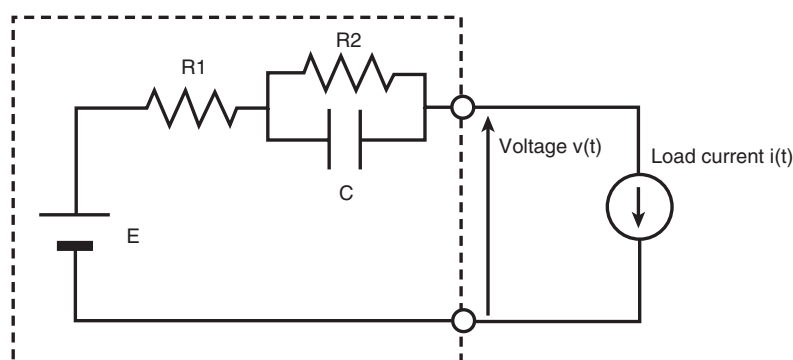
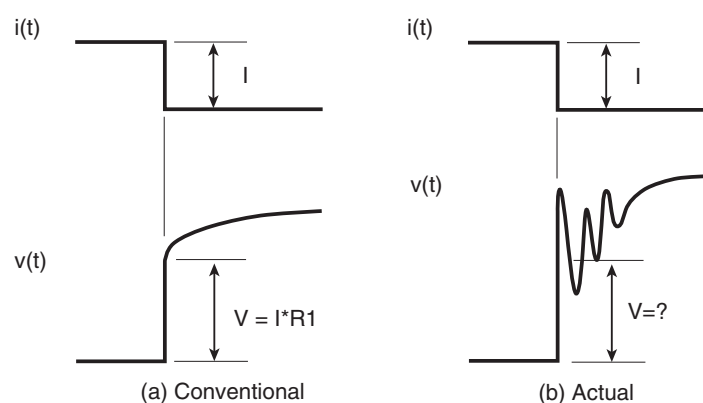

Fig. A-18 The simplest equivalent circuit of a fuel cell
Fig. A-19 Conventional and actual interrupt current waveform
Fuel cells operate as batteries by the chemical reaction that takes place at the boundary face of the electrode and electrolyte. This reaction can be represented as an equivalent circuit. There are many equivalent circuits that have been devised, but the circuit shown in Fig. A-18 is often used. Here,  $R_1$  is the ohmic resistance of the electrochemical/electrical circuit,  $R_2$  is the resistance to charge transfer at the electrolyte/electrode interface, and  $C$  is called the electric double layer capacitance. In the explanation below, we assume that the characteristics of the fuel cell can be represented by this equivalent circuit.
In the current interrupt method, the load current  $i(t)$  of Fig. A-18 is varied in a step pattern shown in Fig. A-19, and the ratio of the amount of change at the section where the waveform of the voltage across the output terminals of the fuel cell  $v(t)$  jumps abruptly (the V section in Fig. A-19) versus the amount of change of current at the corresponding point is determined. This value is assumed to be the ohmic resistance of the electrochemical/electrical circuit  $R_1$ .
However, in the actual measurement, if load current  $i(t)$  is varied as shown in Fig. A-19 (a), the voltage response across the output terminals is as shown in Fig. A-19 (b) in most cases due to various effects such as the wire inductance.
Because the amount of change where the voltage response jumps (the V section in Fig. A-19 (b)) is unclear in this condition, the determination of ohmic resistance of the electrochemical/electrical circuit R1 from the ratio against the amount of change of current is difficult.
- In the current interrupt method, the section where the voltage jumps can be read more clearly as the speed of the current interrupt is made faster (the time until the current is cut off is shortened). However, in reality, the voltage waveform is distorted as shown in Fig. A-19 (b) due to the wire inductance.
- In this case, the waveform distortion is decreased as shown in Fig. A-19 (a). But because the change is gradual, the section where the voltage jumps becomes unclear. If the ohmic resistance of the electrochemical/electrical circuit is determined in this condition, the value ends up being different from the value when the transition speed is fast.
The current interrupt method adopted by the KFM2150 varies the current in a ramp pattern to  $I = PD$  over time (PT1) and estimates ohmic resistance of the electrochemical/electrical circuit  $R_1$  from the transient response of the voltage. The reason for employing such method is to perform measurements by suppressing the ringing in the voltage response as shown in Fig. A-19 (b).